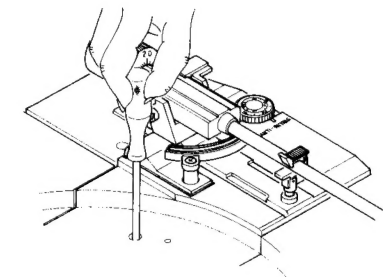

Fig. 30
## 6-(5) Lead-out Adjustment (Fig. 30)